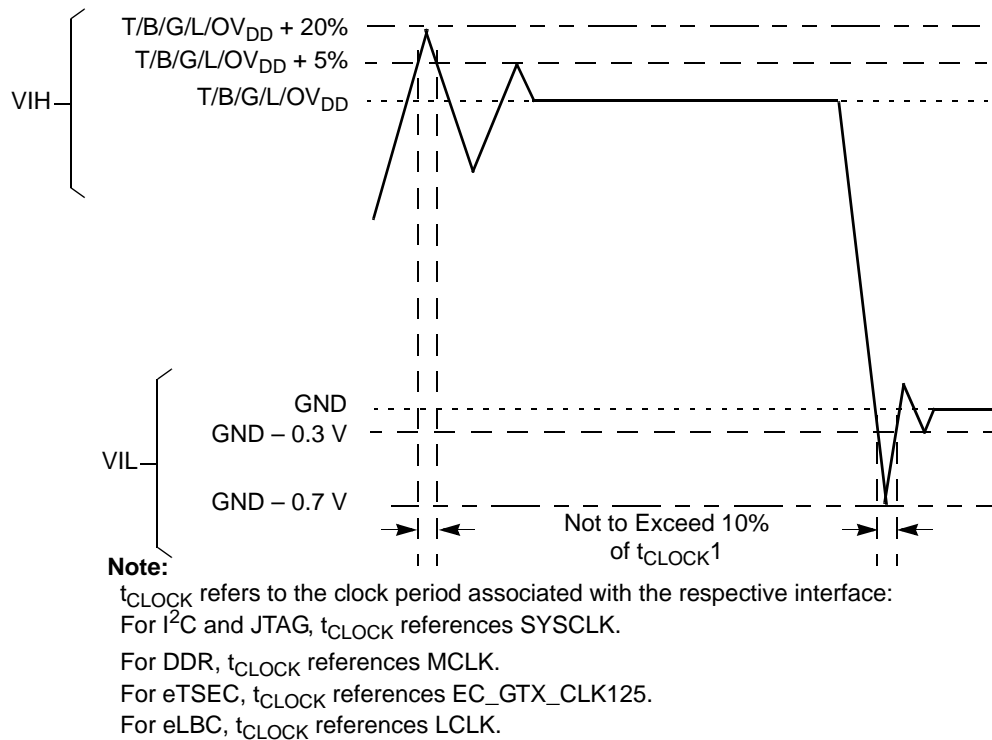

Figure 2. Overshoot/Undershoot Voltage for $T_{V_{DD}}/B_{V_{DD}}/G_{V_{DD}}/L_{V_{DD}}/O_{V_{DD}}$
- (M,L,O) V_{IN} may overshoot/undershoot to a voltage and for a maximum duration as shown in Figure 2.
Figure 2 shows the undershoot and overshoot voltages at the interfaces of the MPC8572E.